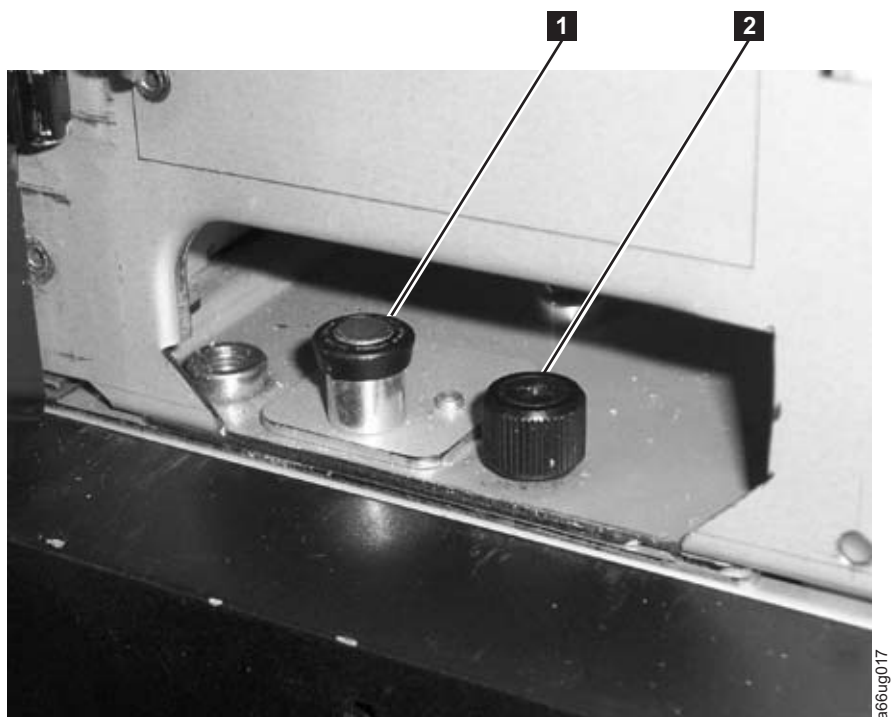
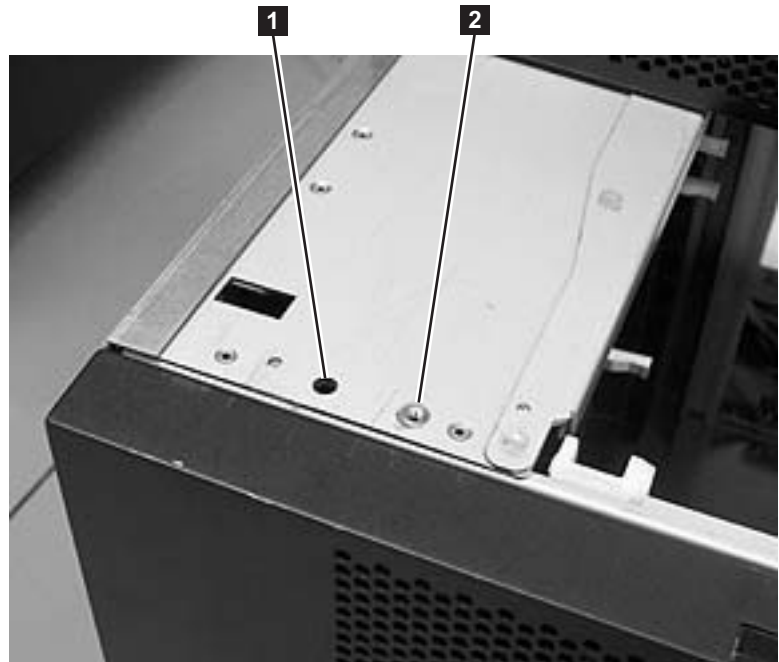

Figure 8-4. Alignment pin and front thumb screw
Figure 8-6. Alignment pin and front thumb screw receptacles
9. Open the I/O Station door then the Access Door of the control module to expose the control module alignment pin (**1** in Figure 8-4 on page 8-8) and front thumb screws (**2** in Figure 8-4 on page 8-8) behind the Access Door and behind the I/O Station door.
2. Ensure that the module-to-module alignment pin (**1** in Figure 8-4 on page 8-8) is in the raised position. If necessary, raise the pin and rotate it half a turn to lock it in the raised position.
6. Twist the control module alignment pin (**1** in Figure 8-4 on page 8-8) to unlock it from the up position.
7. Adjust the control module's position on top of the expansion module until the control module alignment pin drops into the alignment pin receptacle (**1** in Figure 8-6) in the lower expansion module.
8. Tighten the front thumb screw (**2** in Figure 8-4 on page 8-8) to secure the front of the control module to the lower expansion module (**2** in Figure 8-6).
6. Raise the locating pin. (Refer to Figure 8-4 on page 8-8).
- b. Lower the locating pin. (Refer to Figure 8-4 on page 8-8).